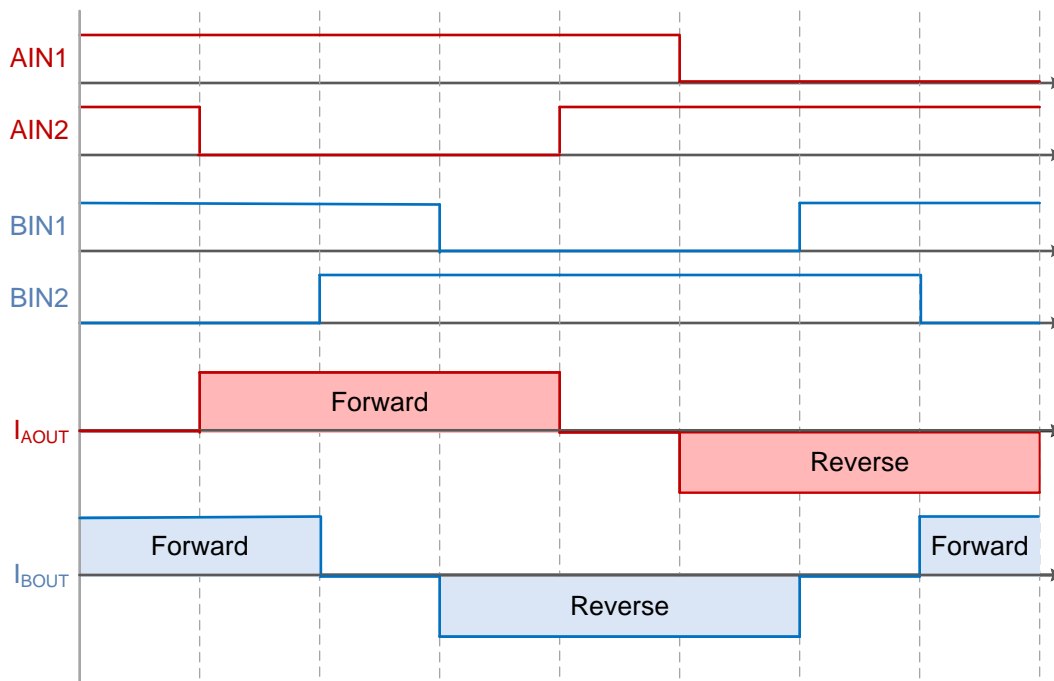

Figure 11. Half-Step Mode
- A. Channel 1 is the AIN1 input PWM signal, and channel 2 is the AIN2 input PWM signal. BIN1 and BIN2 follow the same pattern, but are shifted by 90° from AIN1 and AIN2 as shown in Figure 11. Channel 4 is the output current in the direction AOUT1 \rightarrow AOUT2. In forward and reverse drive, the current rises until it hits the current chopping limit of 200 mA, and is regulated at that level with fixed-off time current chopping.